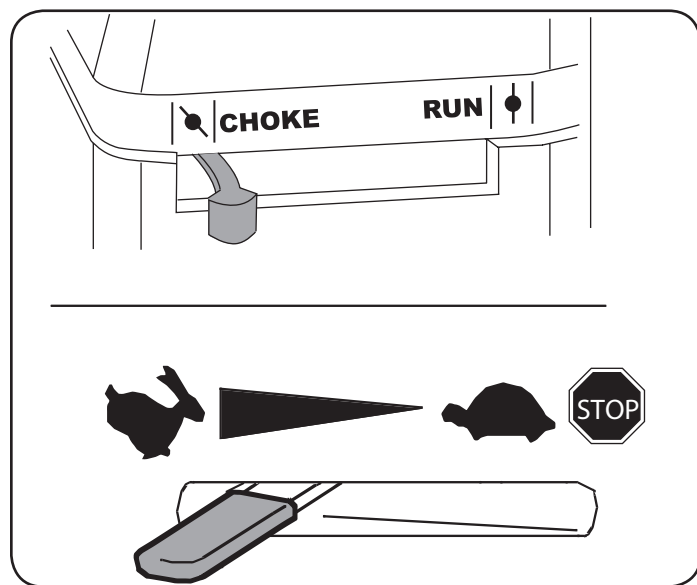

Figure 12
4. Move the choke lever on the engine to CHOKE  position. (A warm engine may not require choking.) See Figure 12.
5. Move throttle control to START/RUN (Rabbit)  position. See Figure 12.